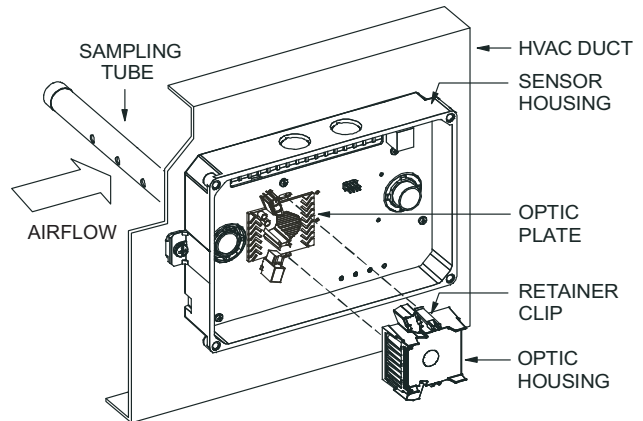

Fig. 58 — Sensor Cleaning Diagram
1. Disconnect power from the duct detector then remove the sensor's cover. See Fig. 58.